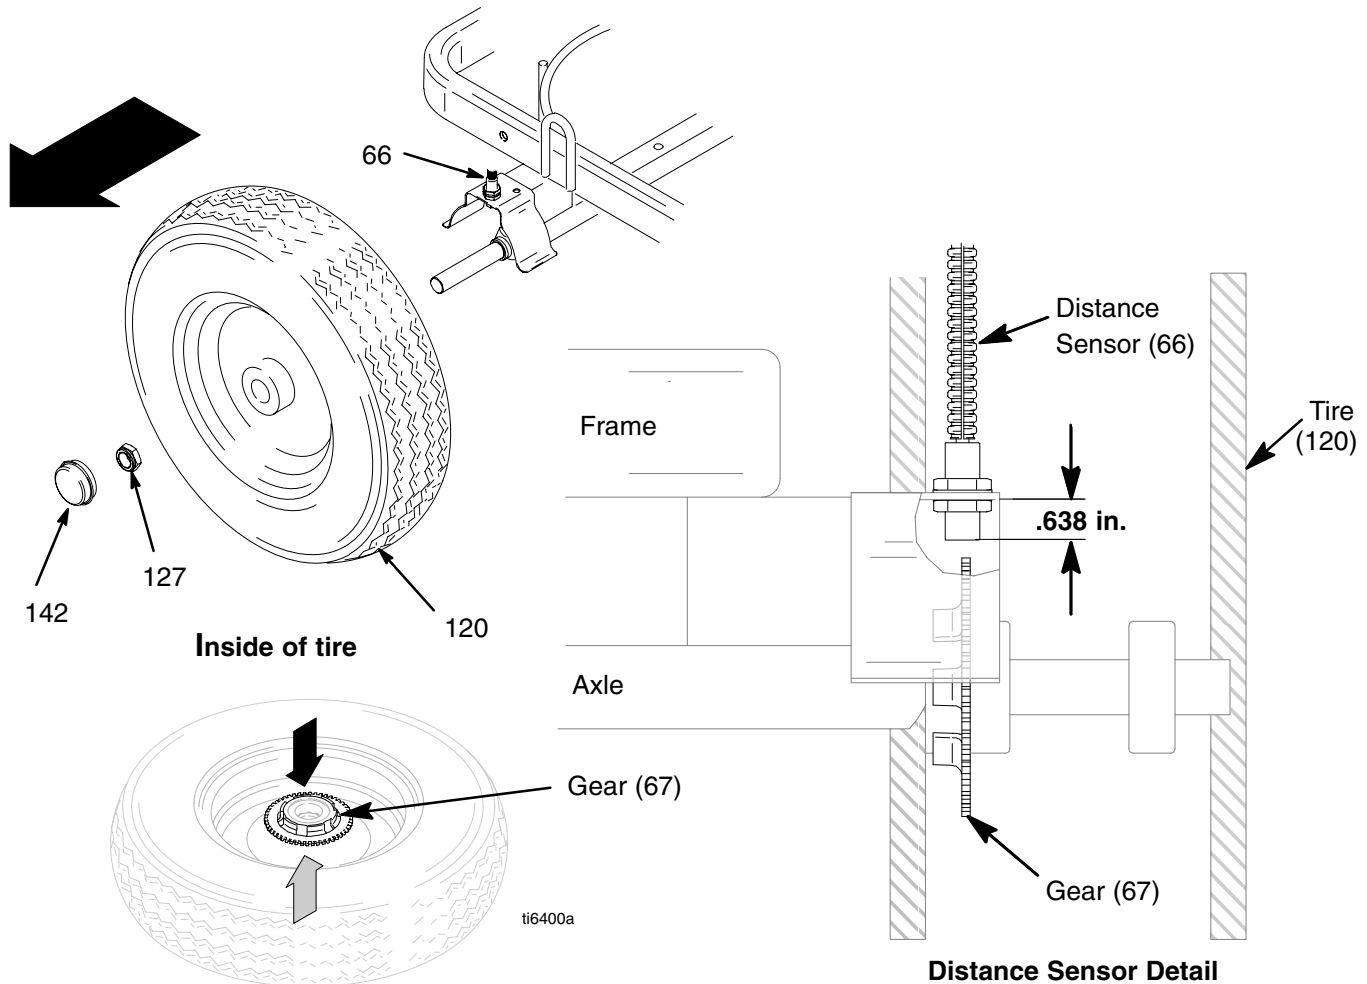

Fig. 14
2. Fig. 14. Remove dust cap (142) from wheel. Remove nut (127).
3. Remove wheel (120) from LineLazer.
4. Align gear (67) with sensor.
5. Install wheel (120) on LineLazer.
6. Install nut (127) until tight, then back off 1/4 turn. Install dust cap (142) on wheel.